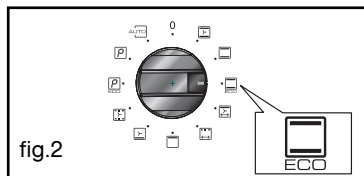

fig.2
– Rotate the function selector to the “” POSITION. The “ECO” indicator comes on on the display (fig.2).
- Adjust the time chosen by pressing + or - (fig.2) buttons until you reach the time required (maximum 60 minutes).